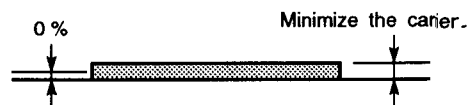

Fig. 5-1-42
- Adjust VR102 so that the Pedestal level becomes 0 % and the carrier becomes minimum as shown in Fig. 5-1-42.
- Adjust VR202 so that the Pedestal level becomes 0 % and the carrier becomes minimum as shown in Fig. 5-1-42.
- Adjust VR302 so that the Pedestal level becomes 0 % and the carrier becomes minimum as shown in Fig. 5-1-42.